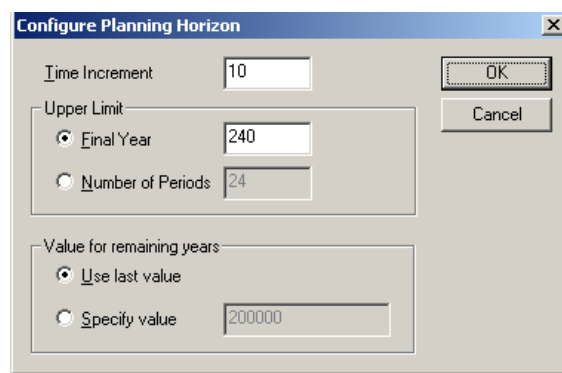

Figure 7: *Configure Planning Horizon* window used to configure the flows over the length of a planning horizon.
- 2.1.9 With the cursor in the *Ruleset* window, right-click and select the *Configure Flows* option. This will bring up the *Configure Planning Horizon* window (Figure 7).